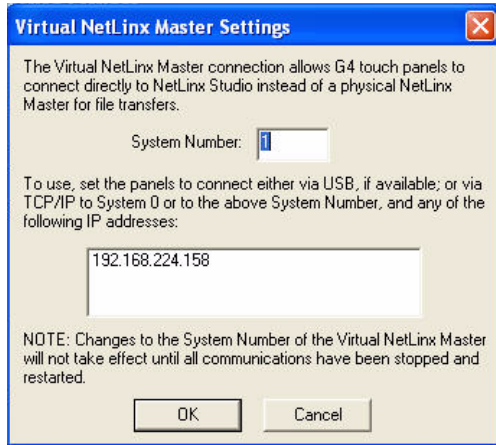

FIG. 37 Virtual NetLinX Master Settings dialog
6. Click the **Edit Settings** button to open the *Virtual NetLinX Master Settings* dialog (FIG. 37).